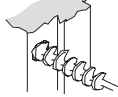

Figure 4b
- Drill 1" (25mm) hole 1-3/16" (30mm) deep in door jamb (on center mark (Figure 4b).